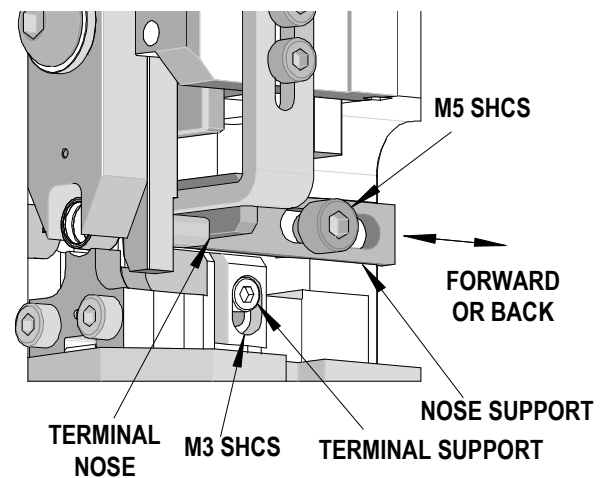

Figure 2-19
- To adjust the nose support, use a 4mm hex wrench to loosen the M5 SHCS holding the nose support to the applicator frame. Move the support forward or back until it just clears the terminal nose. Retighten the screw. See Figure 2-19.
- To adjust the terminal support, use a 2.5mm wrench to loosen the M3 SHCS holding it in place. See Figure 2-19.